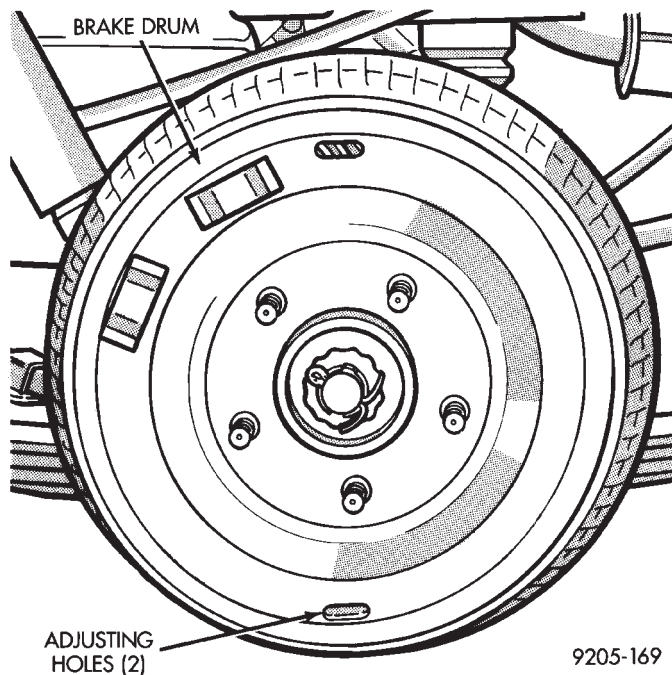

Fig. 3 Rear Brake Drum Position For Parking Brake Adjustment (AWD)
(1) Raise the vehicle so all wheels are free to turn. See Hoisting Recommendations in the Lubrication And Maintenance Section, at the front of this service manual.
(3) Remove the rear tire and wheel assembly from the vehicle to expose the front of the rear brake drum.
(4) Rotate the rear brake drum so the adjusting holes in the face of the brake drum are positioned at 12:00 and 6:00 (Fig. 3).